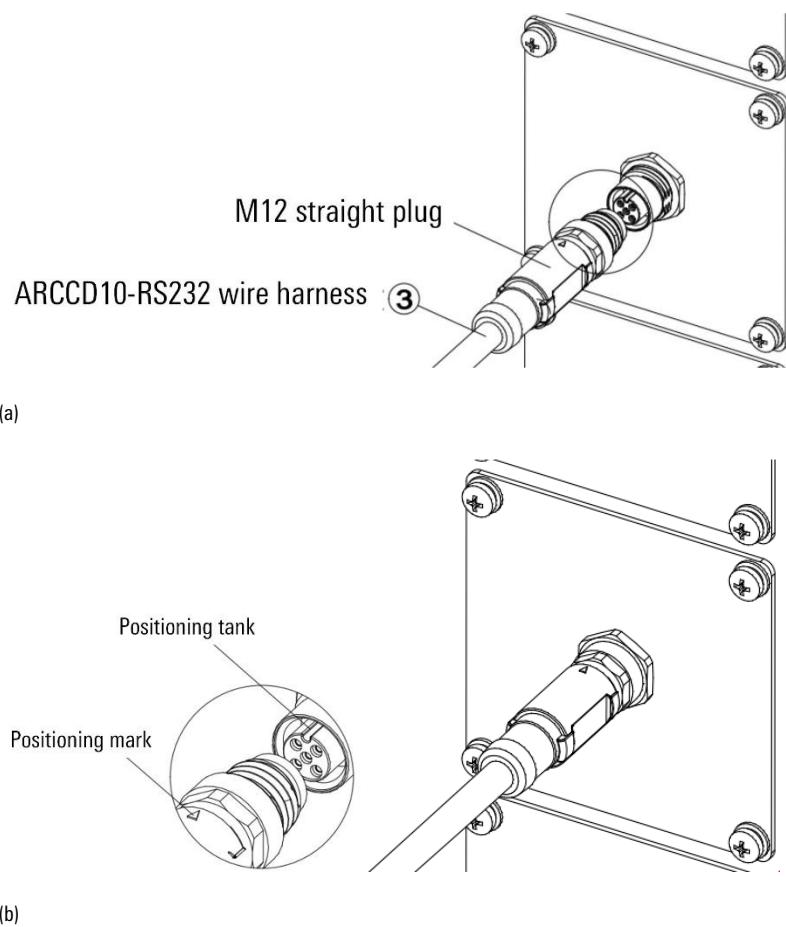

Figure 12-7 ARCCD10-RS232 wiring harness external wiring diagram
Step4. Connect the end of the ARCCD10-RS232 wire harness with the M12 straight plug to the M12 female connector of the cabinet according to the triangular positioning mark (refer to Figure 12-7), the other end is connected to the user's own application module.